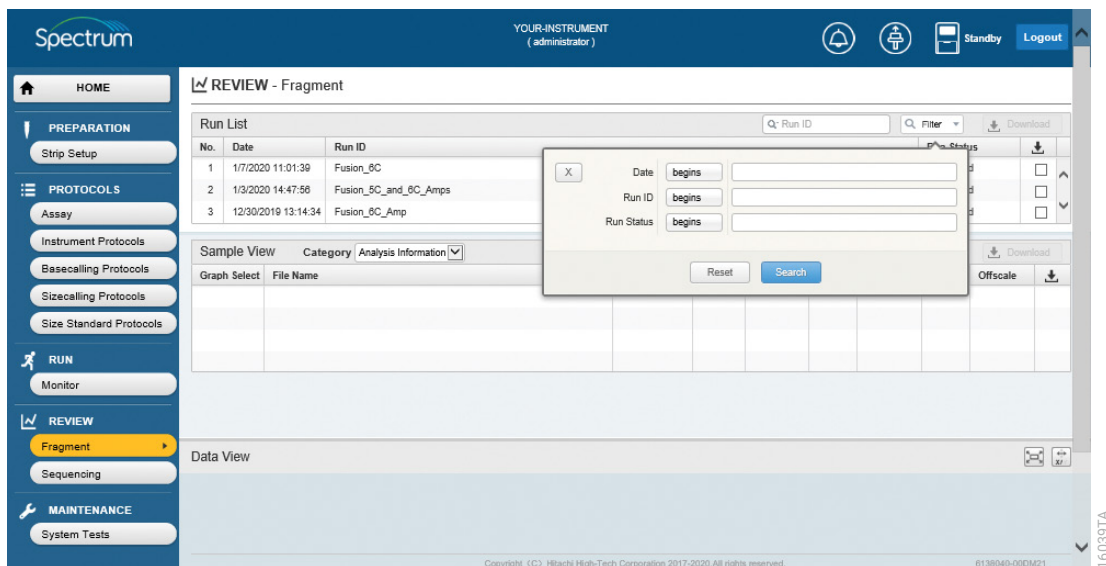

Figure 91. Run List search filter option selection.
4. After selecting the appropriate search field, select the magnifying glass or down arrow icon in the **Filter** box to display filtering options by the different fields (Figure 91).